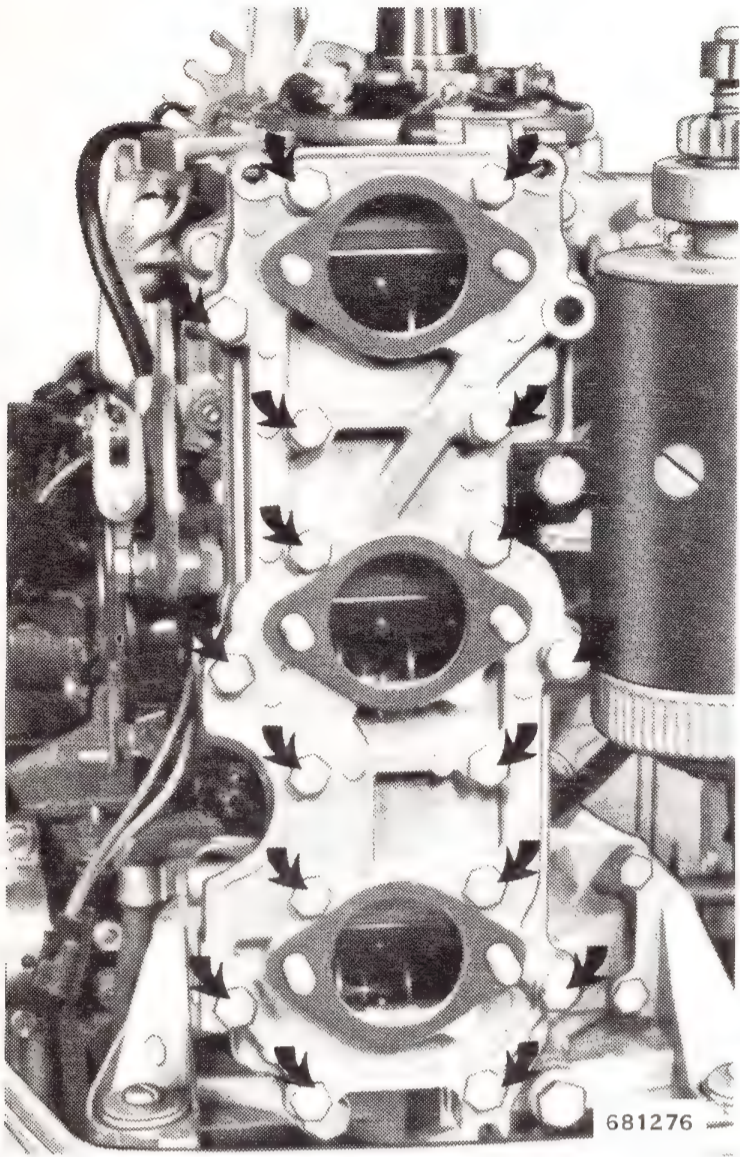

Figure 3-7. Intake Manifold Screws
- a. Remove 17 screws retaining intake manifold and leaf valve assembly. See Figure 3-7.